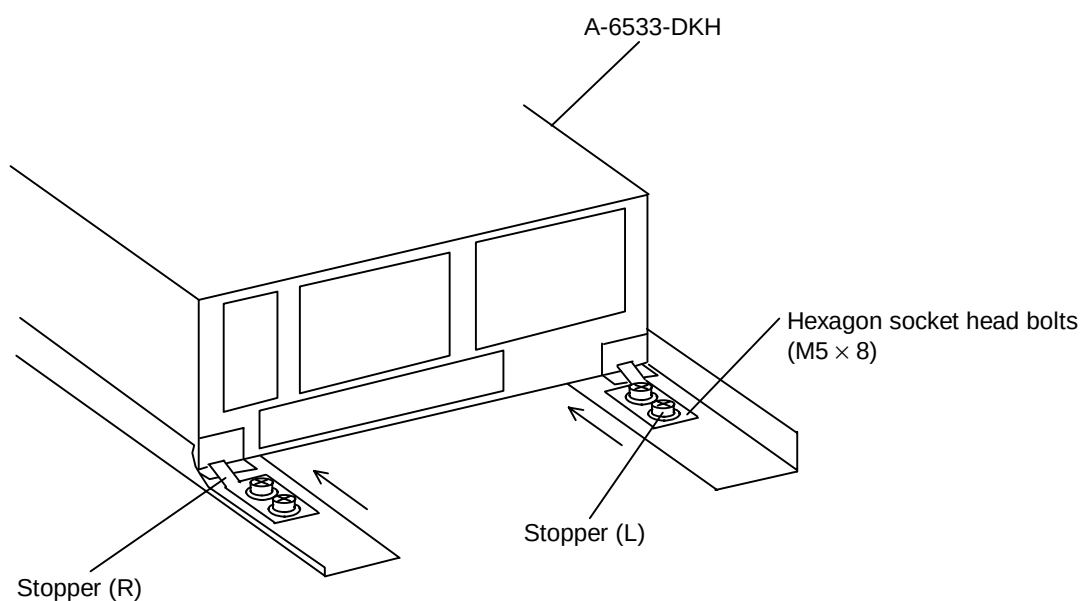

Figure 2.4.7 Securing the Rear Side of the Subsystem
2.4.6 Securing the rear side of the subsystem (See Figure 2.4.7.)